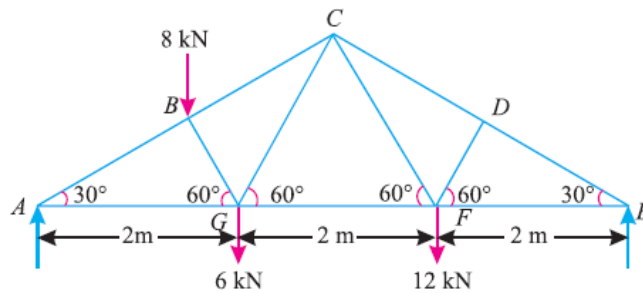

fig.28
2. An inclined truss loaded as shown in fig.28